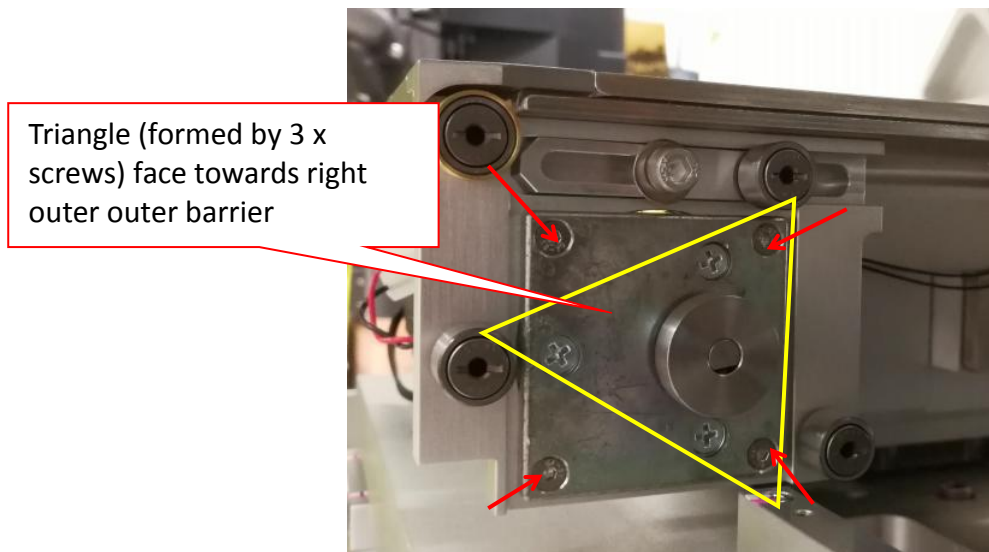

Figure 10 Conveyor Motor Assembly
4. Assemble Conveyor motor & tighten 4 x screws (M3 x 10) as shown in Figure 10.